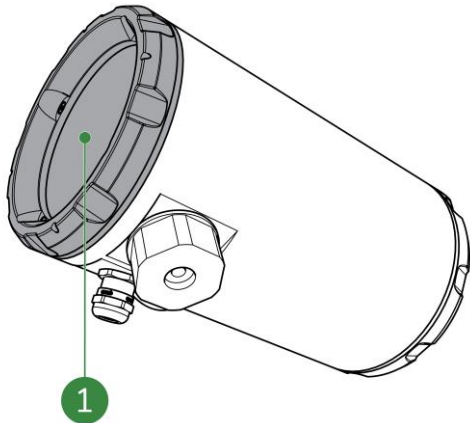

Figure 5-17: Back lid
2. Remove the back lid (Figure 5-17, pos. 1).
14. Close the back lid (Figure 5-17, pos. 1).